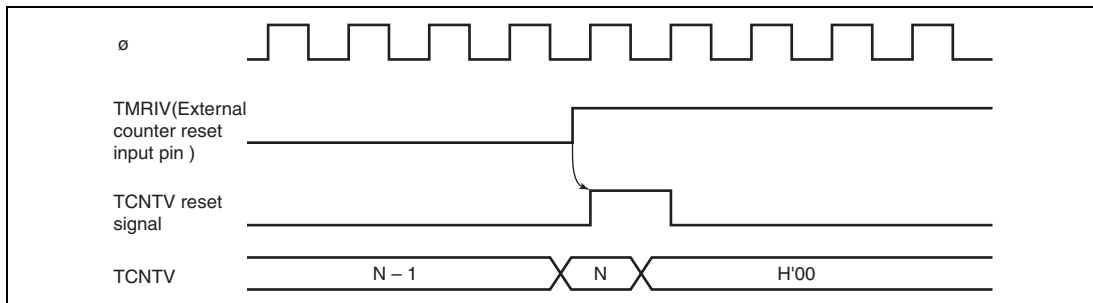

Figure 10.8 Clear Timing by TMRIV Input
6. When CCLR1 or CCLR0 in TCRV0 is 11, TCNTV can be cleared by the rising edge of the input of TMRIV pin. A TMRIV input pulse-width of at least 1.5 system clocks is necessary. Figure 10.8 shows the timing.